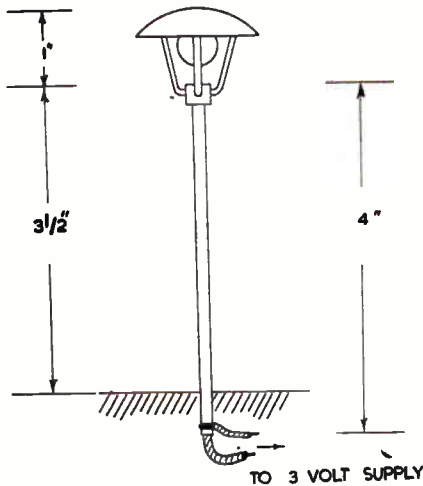

Fig. 1
**N**EARLY every new petrol filling station or similar building requiring a diffused low level lighting system installs 'mushroom' type lamps fitted on top of steel columns about 10 ft. high. Miniature lamps, as shown in Fig. 1, can easily be made and will add considerably to any model requiring this type of lighting.
In the other two holes solder two 1 in. lengths of brass rod,  $\frac{1}{16}$  in. diameter, and bend as shown in Fig. 1. Thread a length of plastic covered single strand electric